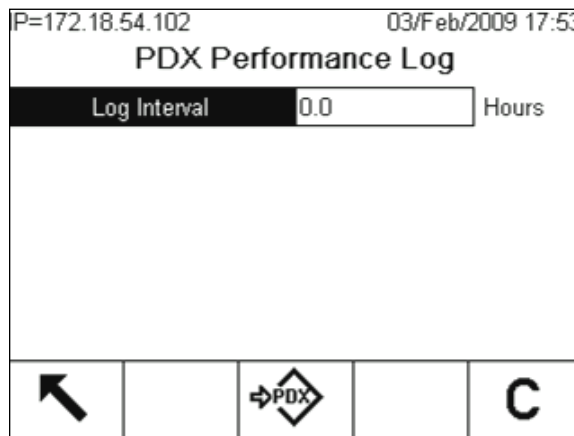

Figure C-43: PDX Performance Log Setup Screen
The PDX Performance Log does not automatically log records by default. To setup the automatic logging, go to the **Maintenance > Configure > PDX Performance Log** setup screen (Figure C-43) and enter an appropriate log interval, between 0.1 and 999.9 hours. A typical value for day-to-day operation is 12, but for diagnostic purposes this interval can be much smaller. A manual record can also be triggered using the PDX PERFORMANCE LOG soffkey .
1. Go to the **Maintenance > Configure > PDX Performance Log** setup screen (Figure C-43).